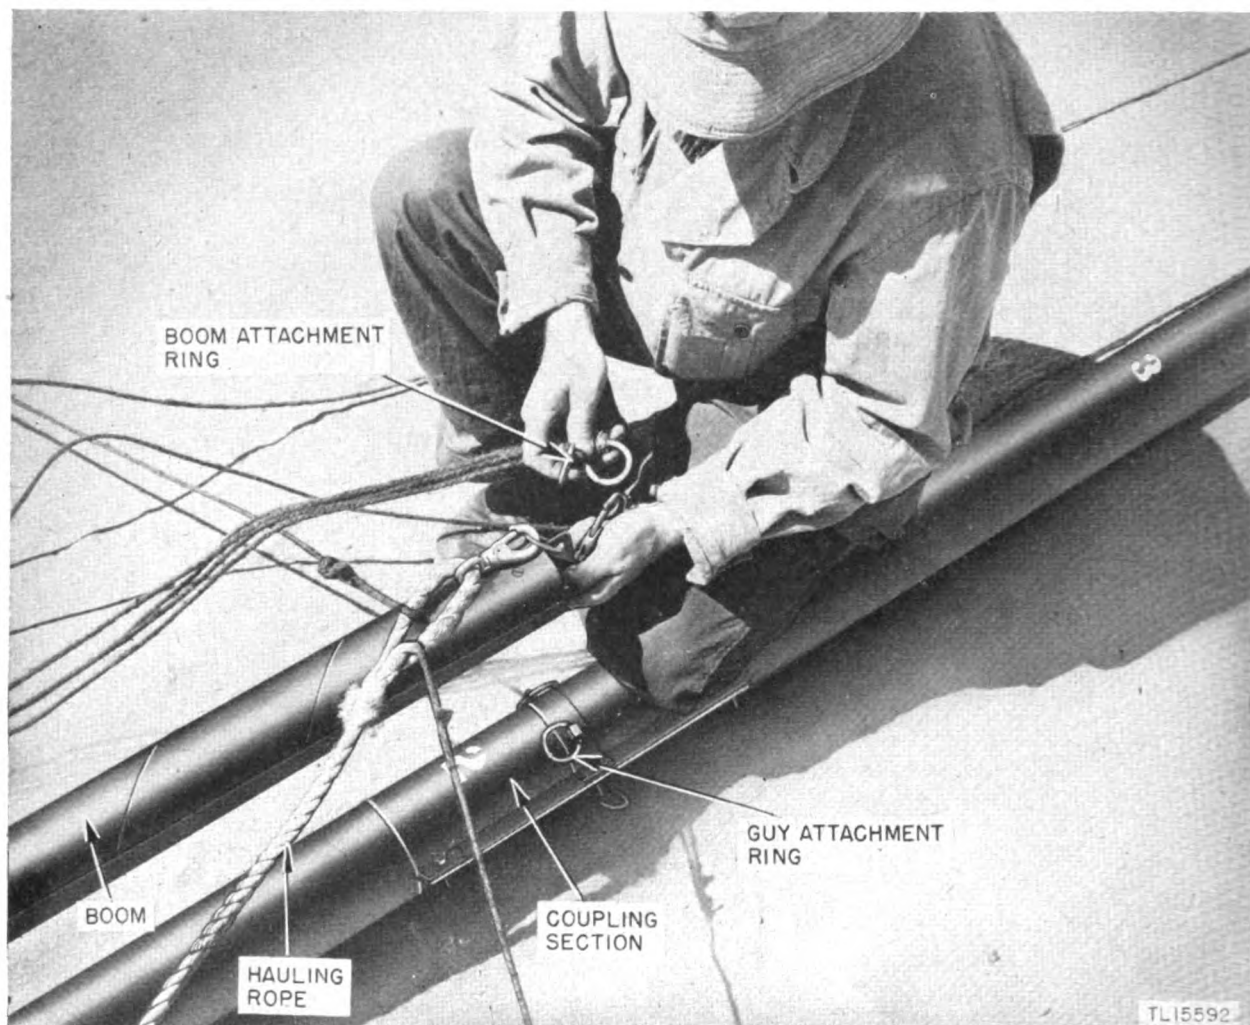

Figure 15. Hauling rope and boom ring attachment detail.
a. The $\frac{1}{2}$ -inch hauling rope is equipped with a snap hook. Two lines for guying the boom are attached to the same hook. Attach the snap hook to the ring in the top of the boom (fig. 15).